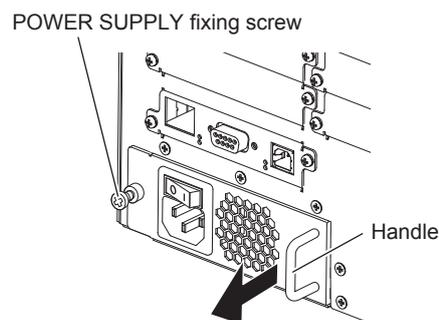

Fig. 1
- 4) **Remove the POWER SUPPLY. (Fig. 1)**